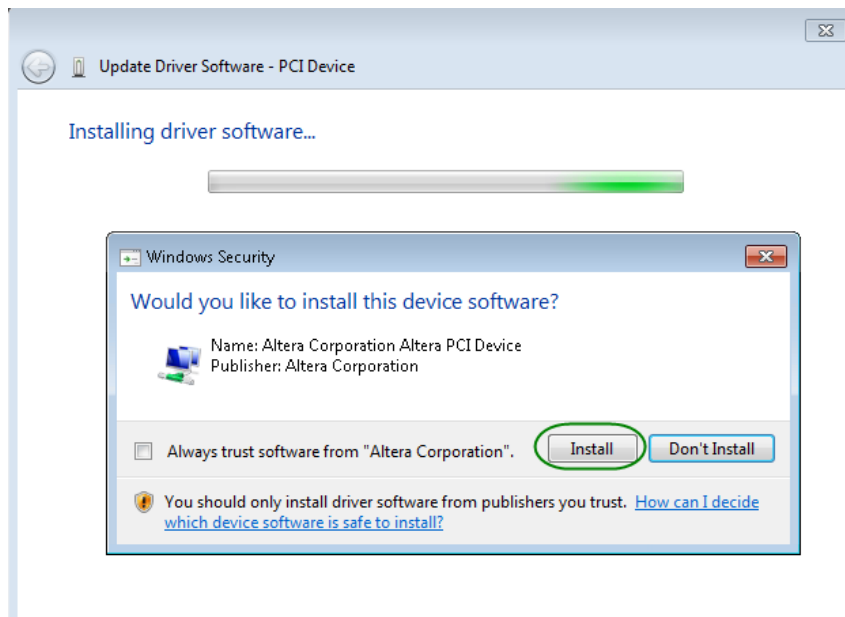

Figure 7-6 Click Install in the dialog of Windows Security
8. When the Windows Security dialog appears, as shown in **Figure 7-6**, click the **Install** button.